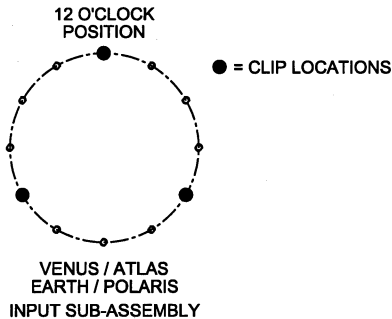

Figure 6.7.1a Location of Shroud Clips
- Remove mounting bolts from input sub-assembly / maincase in the following locations and install shroud clips (reference Figure 6.7.1a).